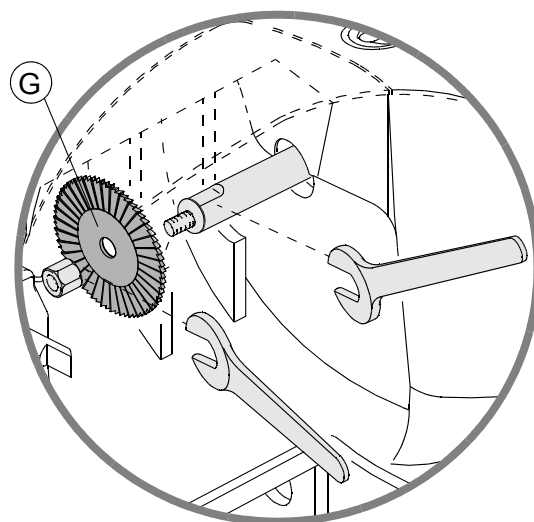

Fig. 18
- 1) place the spanner provided in position on the motor shaft (fig.18);